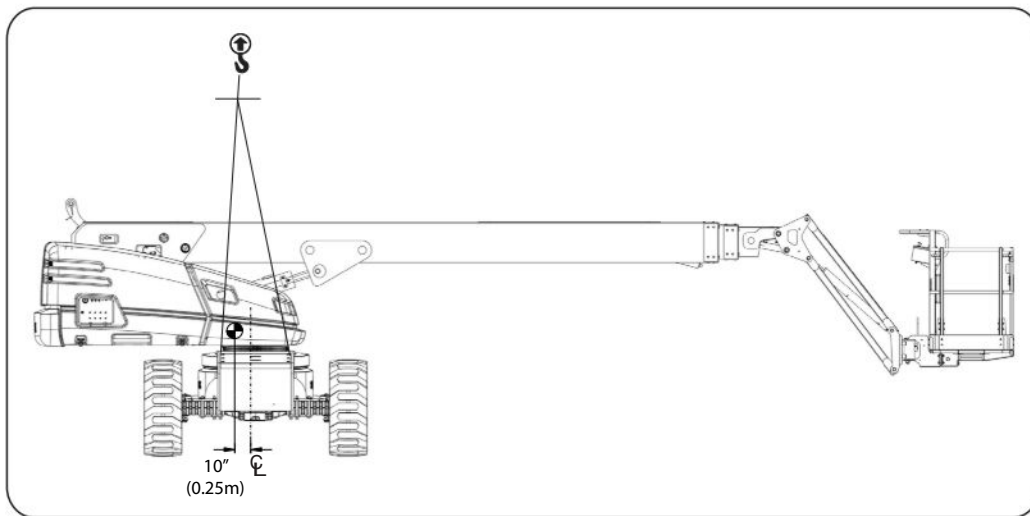
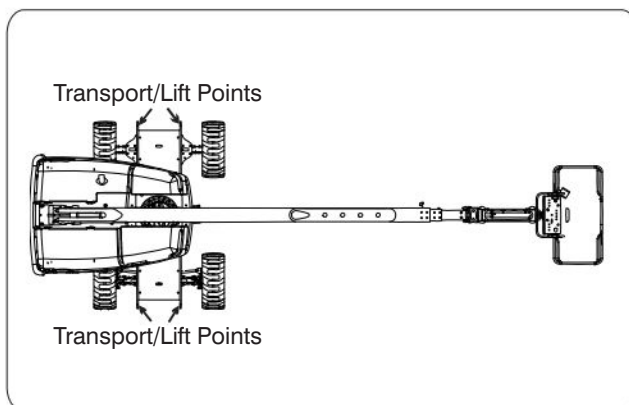
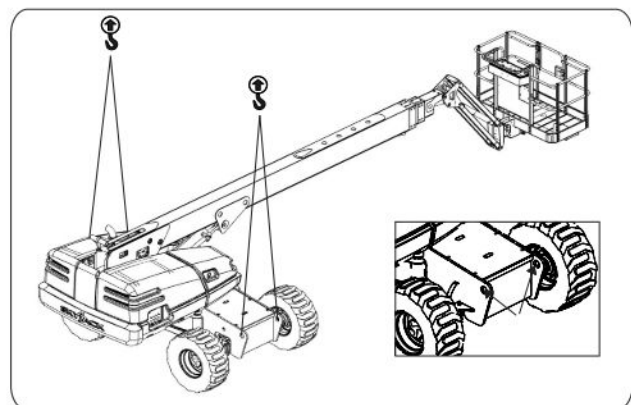

Figure 3-15. 61/66T Center of Gravity
Figure 3-16. 61/66T Overhead View Lifting Points
Figure 3-17. 61/66T Lifting Points
1. Rotate the boom and position the aerial platform as shown in Figure 3-15 and Figure 3-16.
When lifting the aerial platform, lifting devices must be attached to designated lift points only (refer to Figure 3-16 and Figure 3-17).
4. Properly adjust rigging to ensure aerial platform remains level during lifting. See Center of gravity location (Figure 3-15).